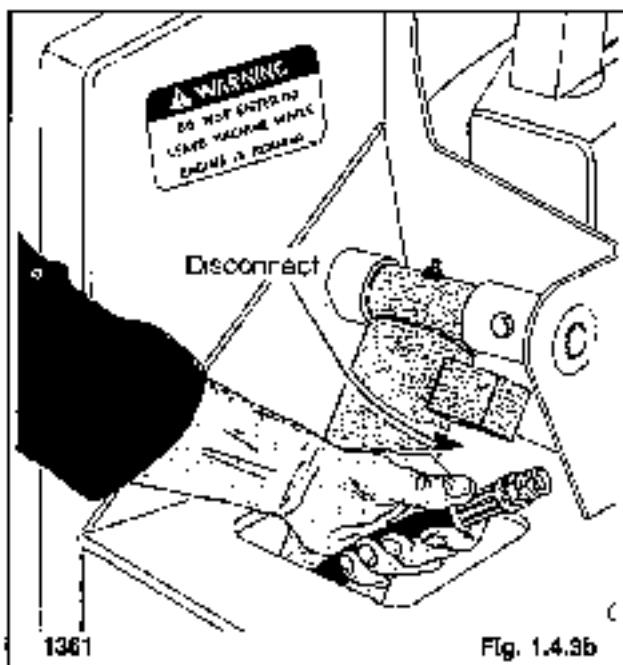

Fig. 1.4.3b
- Disconnect the hydraulic hose from the bucket cylinder rear port (fig. 1.4.3b). Cap the hose.